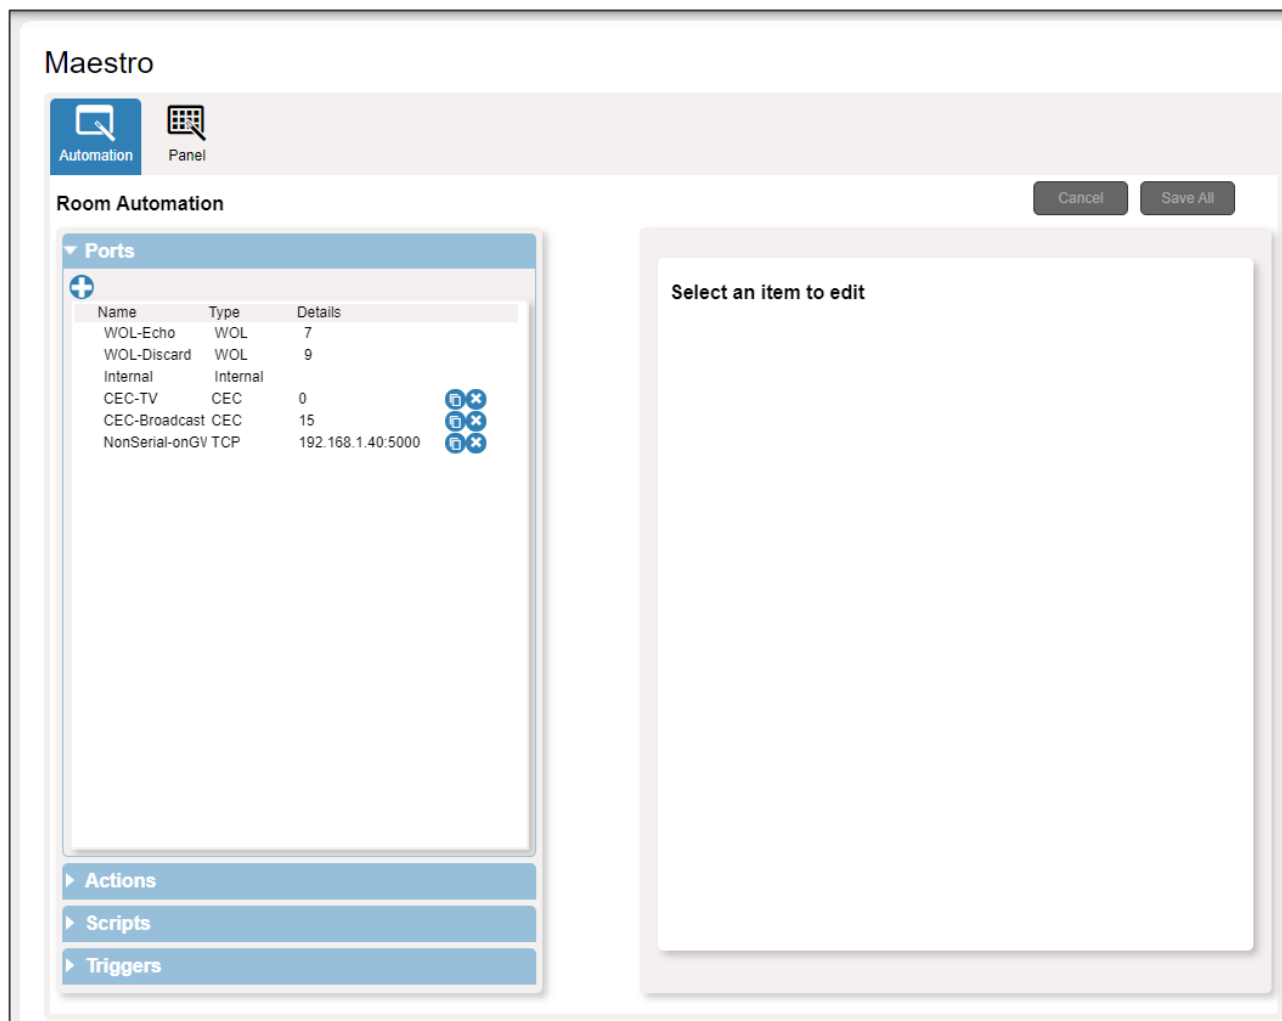

Figure 39: Automation Page – Ports List
1. In the Navigation pane, click **Automation**. The Automation page appears (see Figure 39).